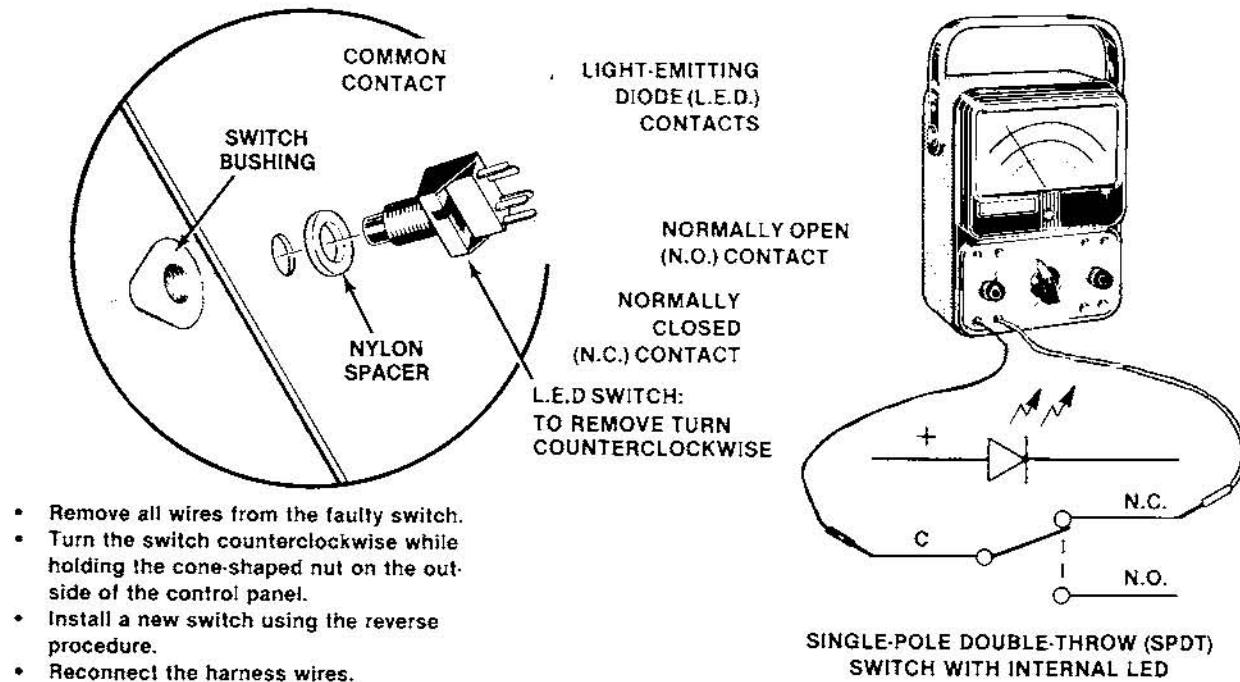

Figure 10 LED Switch Testing and Replacement
The light-emitting-diode (LED) switches on the control panel have a very low failure rate. In case a switch should ever be suspect, first test it per the description that follows. To replace the switch, refer to Figure 10.
- Connect multimeter leads to appropriate LED switch contacts (see Figure 10 for designation of switch contacts and meter lead placement).
- If the contacts do not operate sharply or always remain closed or open, then replace the LED switch as outlined in Figure 10.